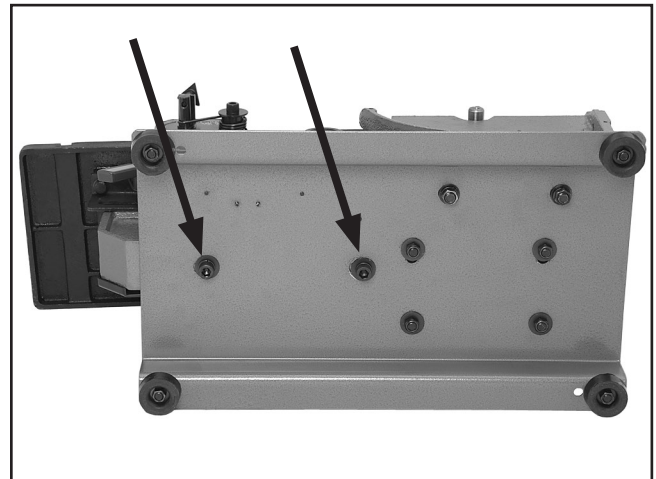

Figure 7. Cap screws securing the belt housing assembly (viewed from underneath the base).
3. Place the V-belt around both pulleys, and secure the belt housing assembly with the two M10-1.5 x 20 cap screws, lock washers, and flat washers (see **Figures 7 & 8**)—do not fully tighten the fasteners for now.